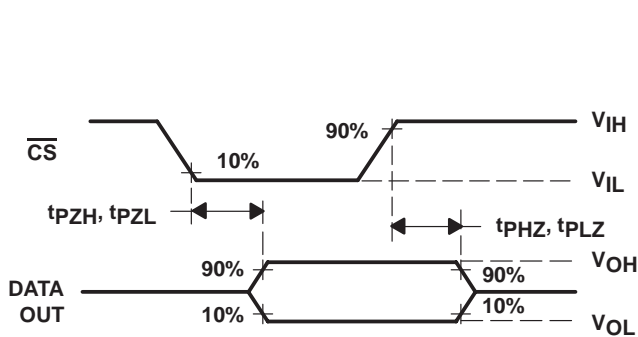

Figure 8. DATA OUT to Hi-Z Voltage Waveforms
10. I/O CLK period = $1/(\text{I/O CLK frequency})$ (see Figure 8).